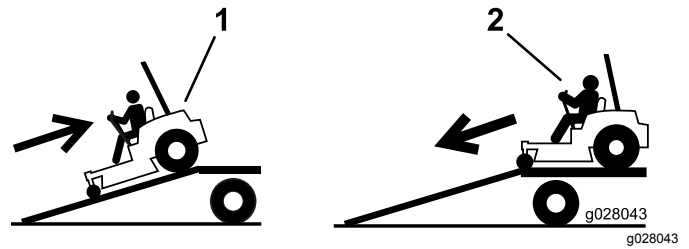

**Figure 38**
5. Use the metal tie-down loops on the machine to securely fasten the machine to the trailer or truck with straps, chains, cable, or ropes (Figure 38).